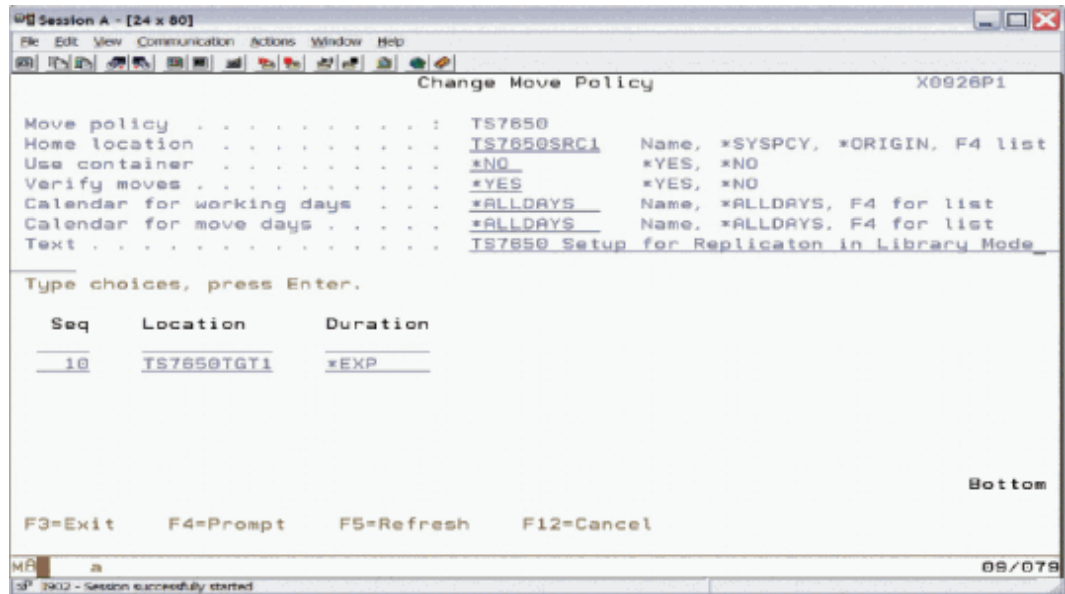
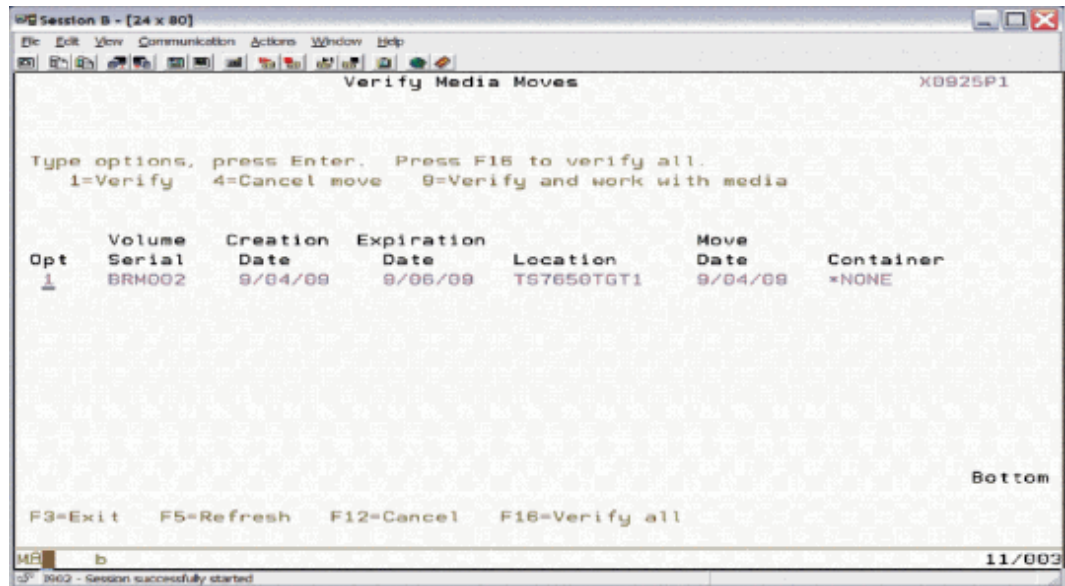

Figure 18-4 Example of a media policy
Figure 18-8 Example of change move policy
1. After the virtual cartridges are added to BRMS and initialized, set up the BRMS move policy to move the cartridges from the location TS7650SRC1 to TS7650TGT1. The cartridge stays in the TS7650TGT1 until it expires. Give the move policy a name (TS7650) (Figure 18-8 on page 285). The Media policy in Figure 18-4 specifies TS7650.
In Figure 18-8 on page 285, the Home Location specifies the source VTL. Under the Location column, type the name of the target location.
6. The cartridge is now available at DR site (Figure 18-8).